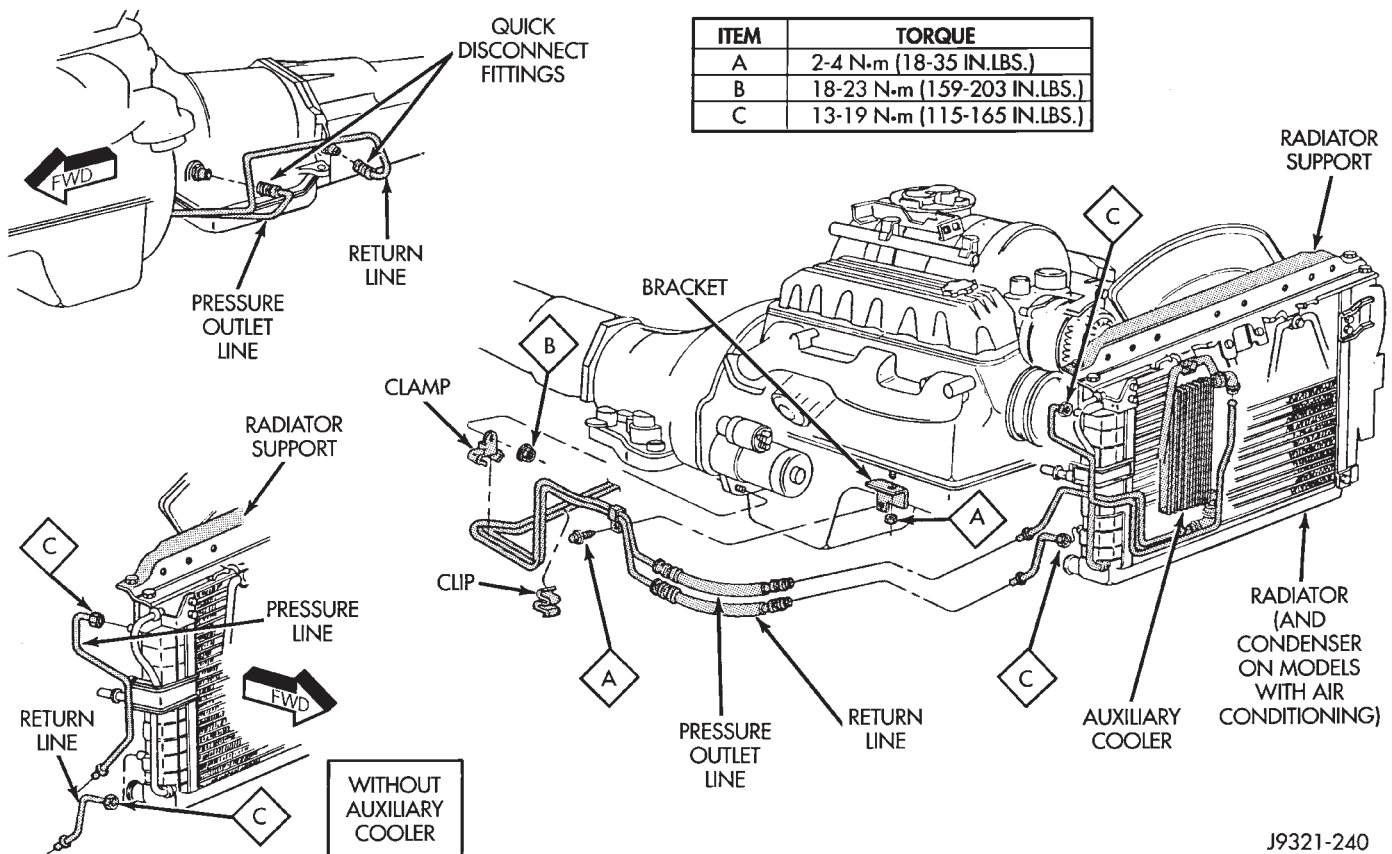

Fig. 23 Transmission Cooler Line Routing And Identification
(1) Identify and disconnect cooler pressure and return lines at transmission. Rear line is return line from cooler. Front line is pressure line to cooler (Fig. 23).
(2) Position drain pan under cooler pressure line to catch material flushed through cooler and lines.
(3) Reverse flush cooler using hand operated suction gun filled with mineral spirits. Insert gun nozzle (or hose) into cooler return line. Then force mineral spirits into line and through cooler.
(4) Continue reverse flushing until fluid exiting cooler pressure line is clear and free from debris. **Replace cooler if fluid cannot be pumped through it.**
(5) Clear flushing materials from cooler and lines with short pulses of compressed air. Insert air gun nozzle into cooler return line and continue short air pulses until all fluid is cleared from cooler and lines.
(6) Pump one quart of fresh automatic transmission fluid through cooler and lines before reconnecting lines.
- (1) Remove grille and air conditioning condenser if equipped.
- (2) Remove screws and U-nuts securing cooler to radiator and support (Fig. 23).
- (3) Tag cooler hoses for installation reference (Fig. 23).
- (4) Position drain pan under cooler hoses.
- (5) Loosen cooler connecting hose clamps and disconnect hoses.
- (6) Remove auxiliary cooler.
- (7) Connect cooler hoses.
- (8) Position cooler on radiator and install cooler attaching U-nuts and screws.
- (9) Tighten cooler hose clamps securely.
- (10) Install grille and air conditioning condenser.
- (11) Check and adjust transmission fluid level.
- (12) If air conditioning condenser lines were disconnected during service, evacuate and recharge system.